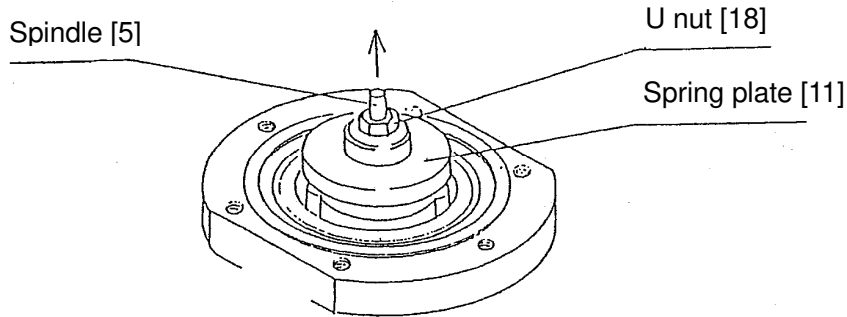
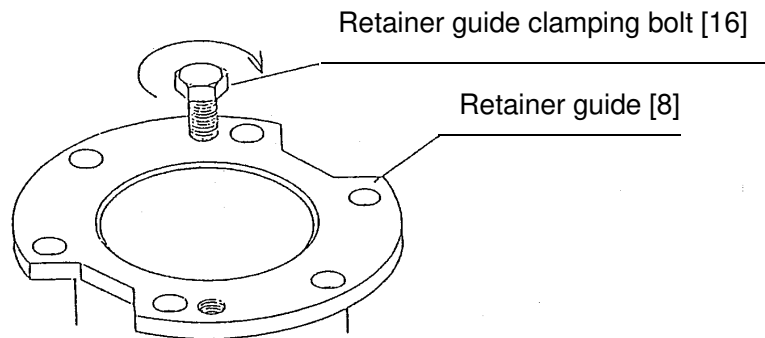

Fig.13
Fig.14
- (1) Release the internal pressure completely, and make sure of zero pressure.
- (2) Slightly loosen the lock nut [14] and turn the adjusting screw [13] counter clockwise to relieve the adjusting spring [12] (Unload the spring).
- (3) Remove the hexagon bolt [17] from the spring chamber [2], then remove the spring chamber, and take out the adjusting spring and the spring plate [10].
- (4) To remove the diaphragm [9], fix the spindle [5] and remove the U nut [18].
- (5) To remove the retainer [6], loosen and remove the retainer guide clamping bolt [16] and pull the retainer guide [8]. Remove it by the bellow method (Fig.13, Fig.14) when it is difficult to remove the retainer guide.
- (6) To remove the valve seat [3], pull the spindle.
- (7) Fix two planar sections at spindle and loosen U nut for spindle to remove it, then the valve can be dismantled.
To remove the retainer guide [8] easily, install the spring plate [11] and U nut [18] to spindle [5] again and pull the spring plate. (Fig.13)
To remove the retainer guide [8] easily, screw the retainer guide clamping bolt [16] to retainer guide and pull it. (Fig.14)